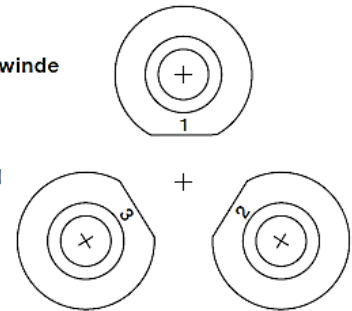

Figure 11: Inserting the rolls
3. Place the rolls clockwise on the carbide bushings (15) and eccentric bolts (9) as shown in Fig. 11.